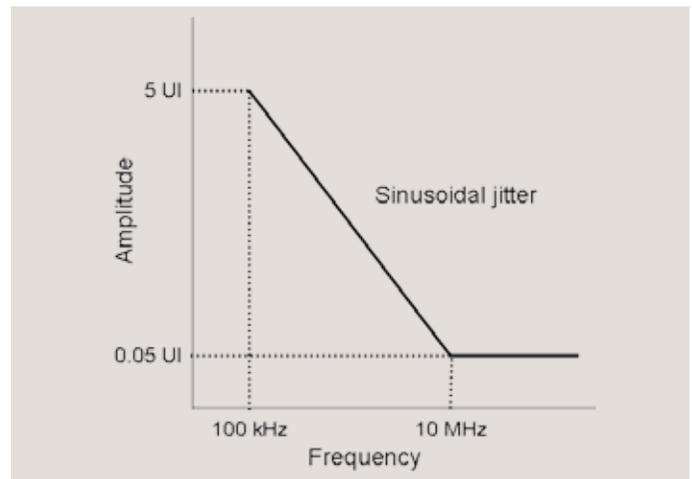

Figure 7. Sinusoidal Jitter stress template.
Apply Sinusoidal Jitter (SJ) to the pattern generator clock according to the template in Figure 7 to assure that the receiver can track low-frequency jitter.
Apply the stressed signal to the receiver, first with low amplitude SJ applied above the roll off frequency in the template of Figure 7. If the receiver operates at $BER \leq 10^{-12}$, then with all other stresses applied, continue the tests across the SJ frequency-amplitude template in Figure 7. It's automatic with the BERTScope's Jitter Transfer Measurement function.
SJ at frequency above roll off in Figure 7	0.05 UI
BER for any SJ amplitude and frequency in Figure 7	$\leq 10^{-15}$
Apply DJ, in addition to that of the compliance test board, by adding a low pass filter and 0.05 UI of SJ at a frequency just above the roll off in Figure 7.
Apply the stressed signal to the receiver first with low amplitude SJ applied above the roll off frequency, Figure 7. If the receiver operates at or better than the specified BER with its equalization scheme enabled and optimized, continue testing across the SJ frequency-amplitude template in Figure 7 to assure that the receiver can track low-frequency jitter, with all other stresses applied. It's automatic with the BERTScope's Jitter Transfer measurement function.